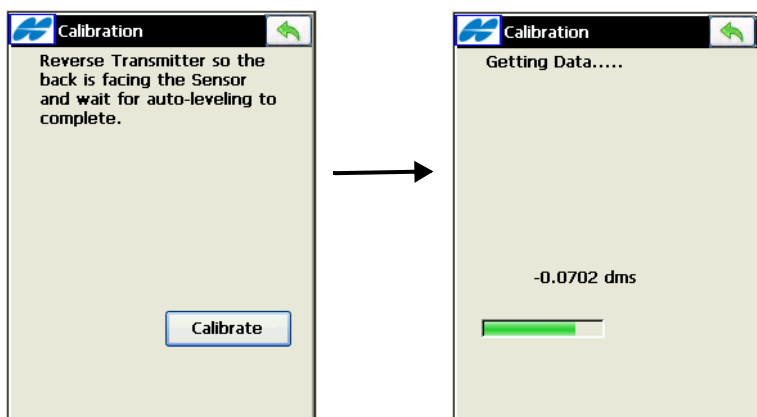

Figure A-16. Turn Transmitter to Back and Collect Data
8. Turn the transmitter 180° so the back faces the transmitter. Tap **Calibrate** (Figure A-16 on page A-10).